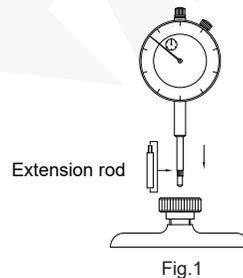

Fig.1
2. Select extension rod according to the measured size, and select the tip according to the shape of workpiece. Ball tip is used to measure the plane surface. Pointed tip is used to measure concave or complicated surface. Insert indicator into hole of base plane, use a wrench to insert it into the locking hole in the center of the lock nut to lock it to ensure that the measuring head is installed firmly and reliably (Fig.1)